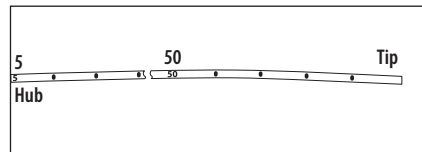

Figure 25
- Single numbering pattern (refer to Figure 25):